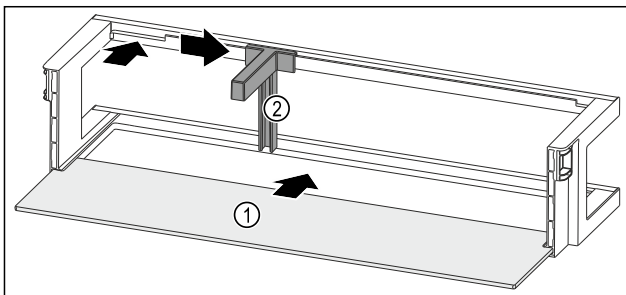

Fig. 114 Door racks with shelf
- ▶ Push the shelf Fig. 114 (1) into the side cutouts.
- ▶ Insert the bottle holder Fig. 114 (2) into the recess.
- ▶ Push the bottle holder Fig. 114 (2) to the side into the desired position.